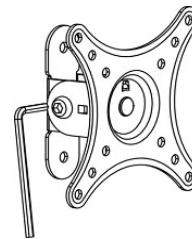

Figure 7
- 3 Adjust the tension of the joint using the supplied 6mm Allen Key (Figure 7).